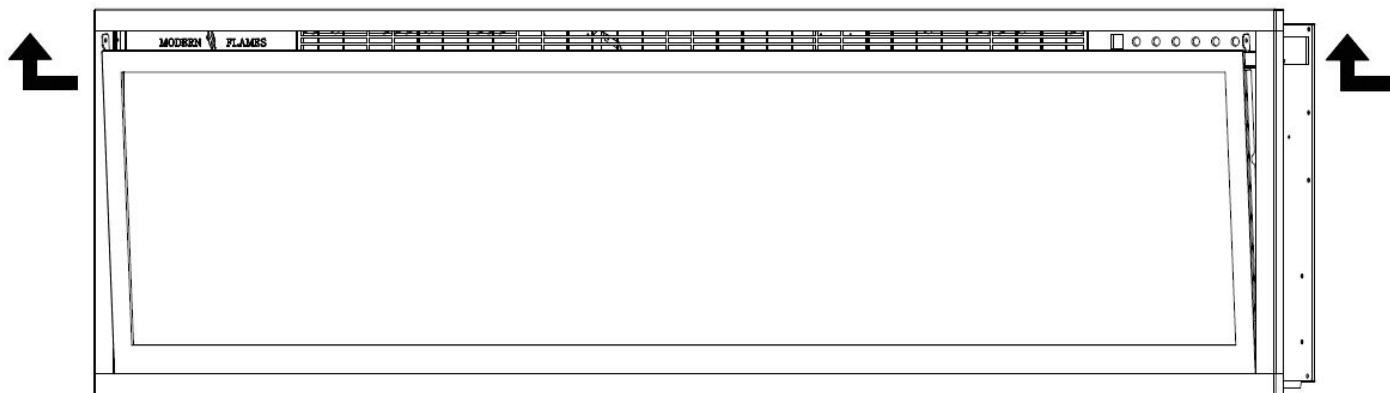

Fig. 1-2
- B. Carefully lift the front glass up and away from the appliance (**Fig. 1-2**). Place it face down on a soft, non-abrasive surface.